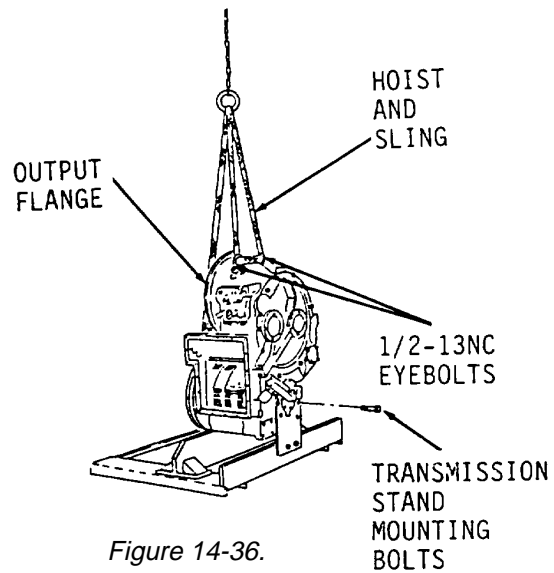

Figure 14-36.
7. Install hoist and sling to two 1/2-13NC eyebolts, turn transmission to side and lift and place transmission on transmission stand (Figure 14-36).